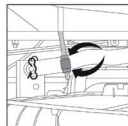
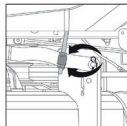

FIG. 24A
FIG. 24B
3. TURN THE UPPER ADJUSTMENT NUTS (A) UPWARDS. TURN THE LOWER ADJUSTMENT NUTS (B) UP TO RAISE OR DOWN TO LOWER BOTH SIDES OF THE MOWER DECK. (FIG. 24A AND FIG. 24B)